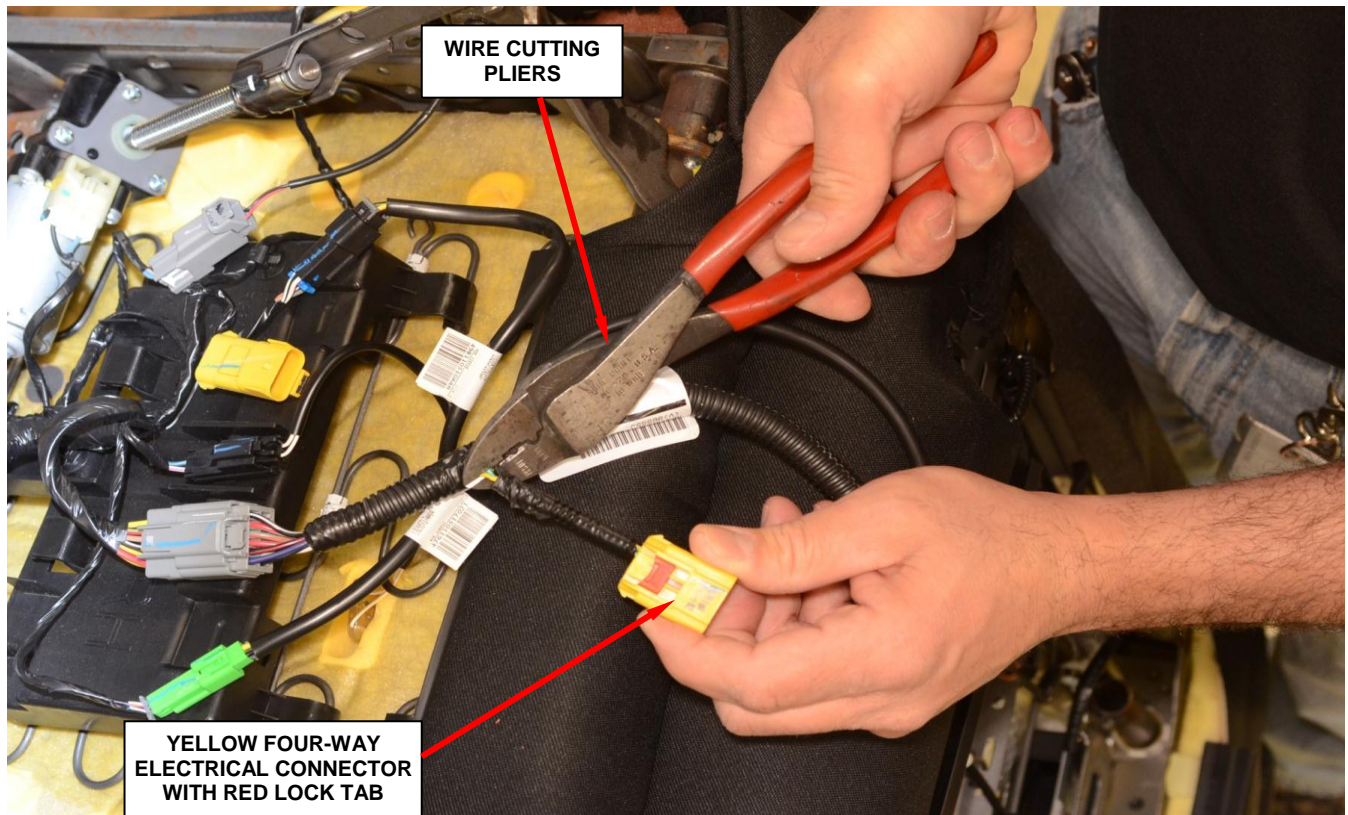

Figure 5 – Cut Off and Discard the Yellow Four-Way Wiring Harness Side Electrical Connector (Except Challenger Right Side Front Seat)
7. For all models except Challenger right side front seat, cut off and discard the original wiring harness side yellow four-way electrical connector (Figure 5).